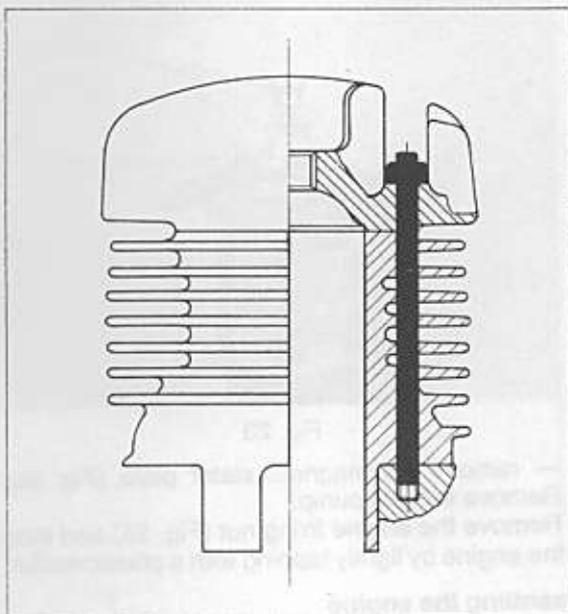
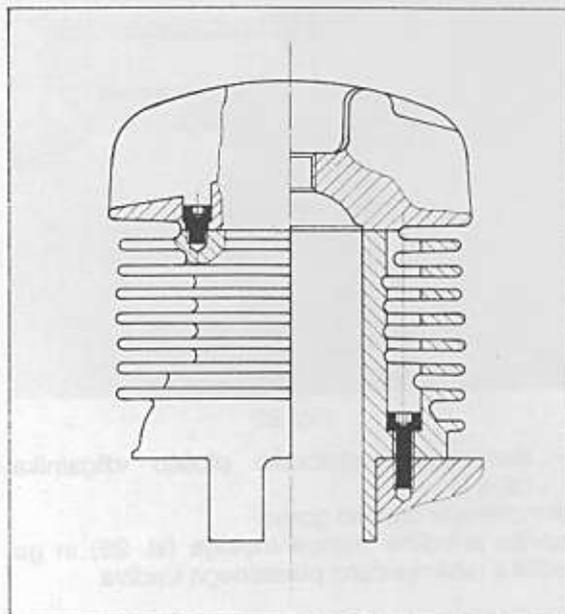

Fig. 16
Fig. 17
3. Dismount the cylinder head and cylinder (Figs. 16 and 17); Fig. 16 shows attachment of cylinder with a 60 cc execution and Fig. 17 shows attachment of cylinder and cylinder head with an 80 cc execution.
3. Smontare la testa cilindro ed il cilindro (Fig. 16 e 17). La Fig. 16 mostra un cilindro di  $60 \text{ cm}^3$ , mentre la Fig. 17 mostra un cilindro di  $80 \text{ cm}^3$ .